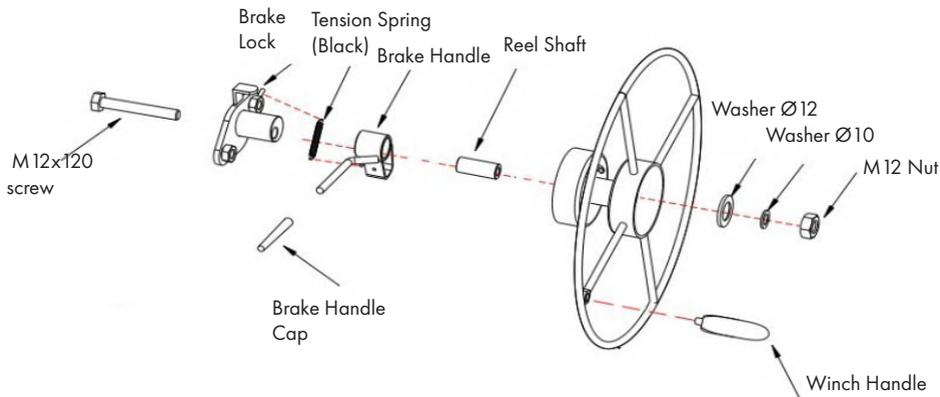

Figure 14
- Complete the Winch wheel assembly as shown in Fig. 14.